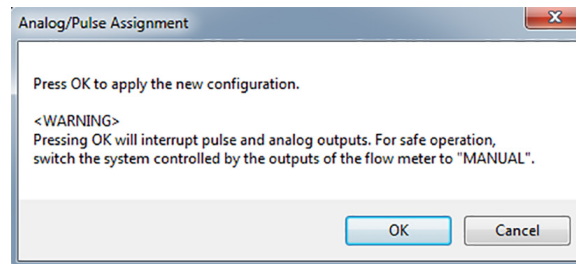

Figure 2.3—Analog/Pulse Assignment warning
- Click **OK**. A warning (Figure 2.3) will appear.